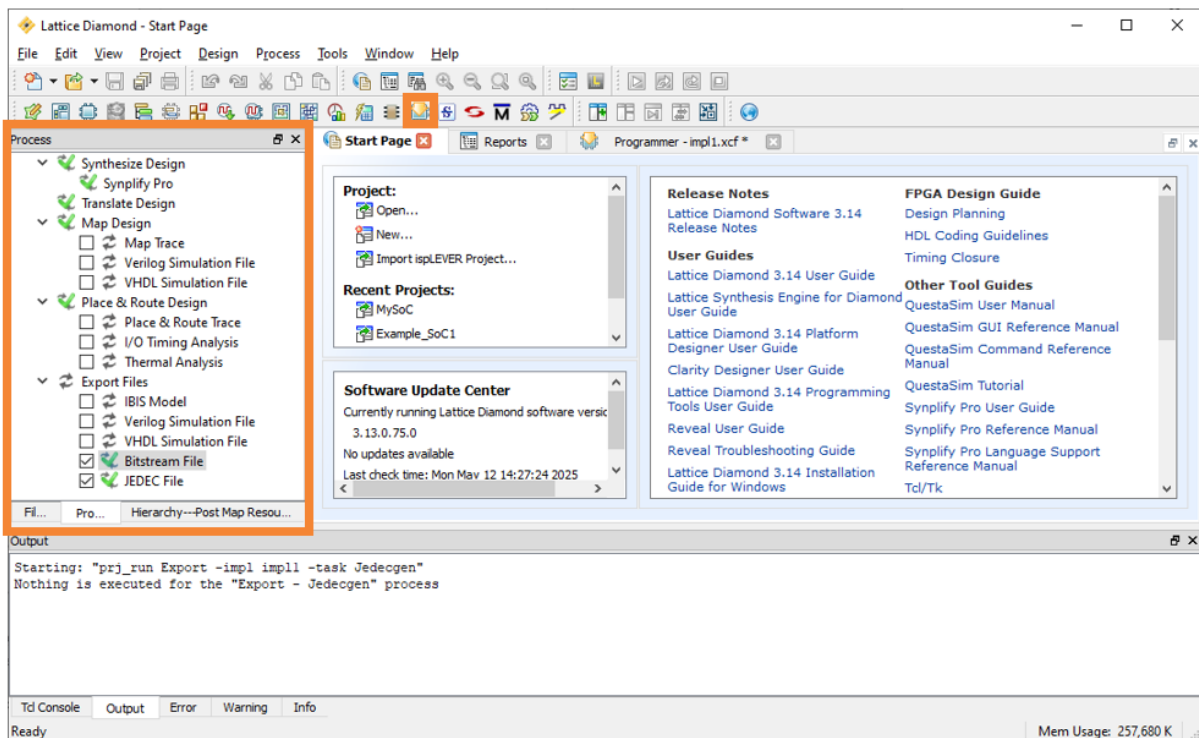

Figure 6.15. Programming File is Generated Successfully
Once the programming file is exported successfully (Figure 6.15), you can program the target device. Make sure the evaluation board is powered ON and connected correctly to the host PC before performing the following procedure.
1. Click the **Programmer** icon  on the toolbar of the Lattice Diamond **Project Explorer** (Figure 6.15).